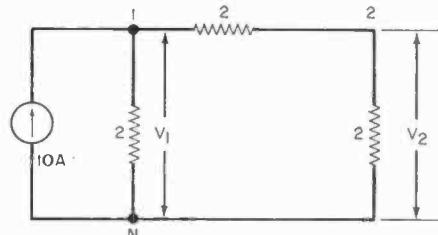

Fig. 11
**Ex. 12.** For the network in Fig. 11, determine  $V_1$  and  $V_2$ . **Sol.** At node 1,  $-10 + 0.5V_1 + 0.5(V_1 - V_2) = 0$ , or  $10 = V_1 - 0.5V_2$  (Eq 11). At node